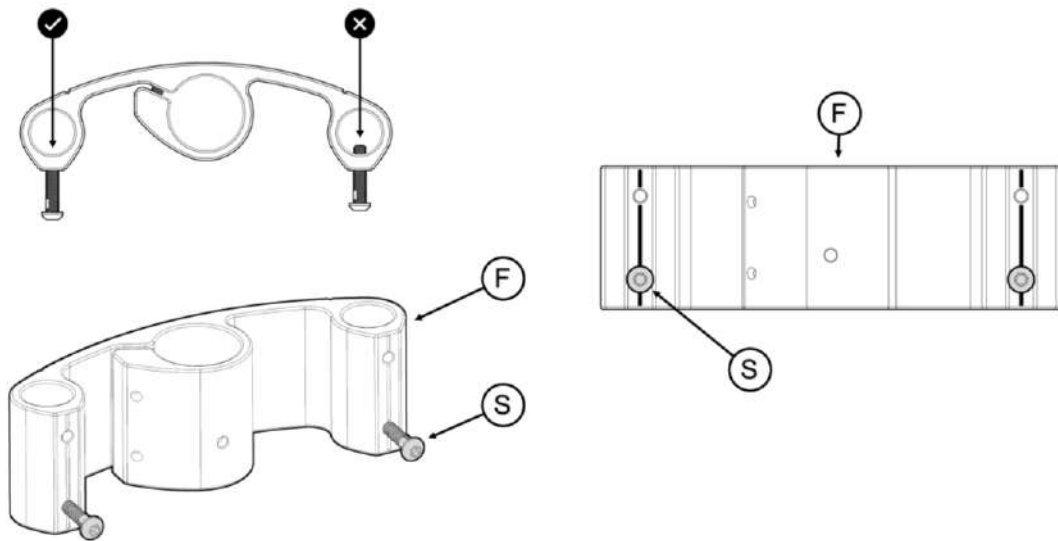

FIGURE 12
12. Partially thread bolt **S** into lower holes in **F**. Do not thread too far – bolt should not block assembly of legs. Lay main support **F** on flat surface so markings can be seen. **FIGURE 12**